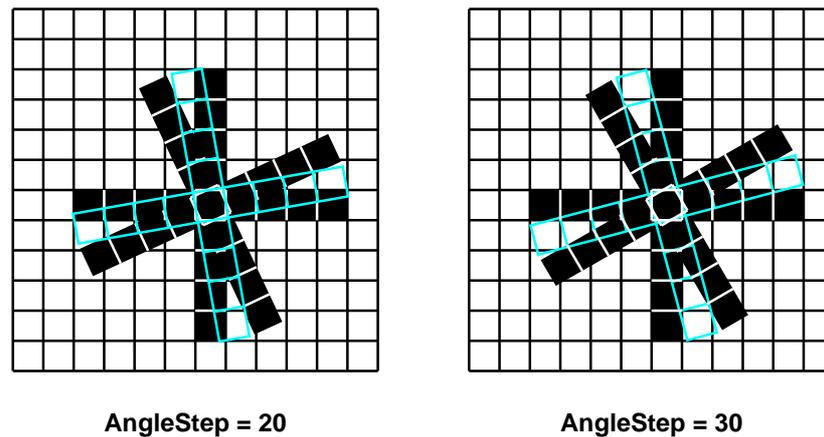

Figure 13: The effect of a large `AngleStep` on the matching.
- As described in section 2.2.3, HALCON precomputes the model for intermediate angles within the allowed range of orientation. During the search, a candidate match is then compared to all precomputed model instances. If you select a value for the parameter `AngleStep` that is significantly larger than the automatically selected minimum value, the effect depicted in figure 13 can occur: If the object lies between two precomputed angles, points lying far from the center are not matched to a model point, and therefore the score decreases.